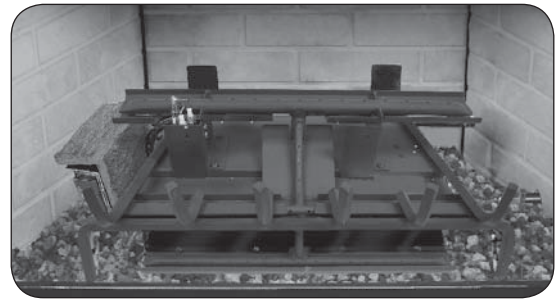

Fig. 18-2 Place lava media
1. Spread the supplied lava granules on the floor of the fireplace, around the front and sides of the burner system (see Fig. 18-2). The lava granules may be placed around the receiver/switch box. Leave the front of the receiver/switch box clear for control access.